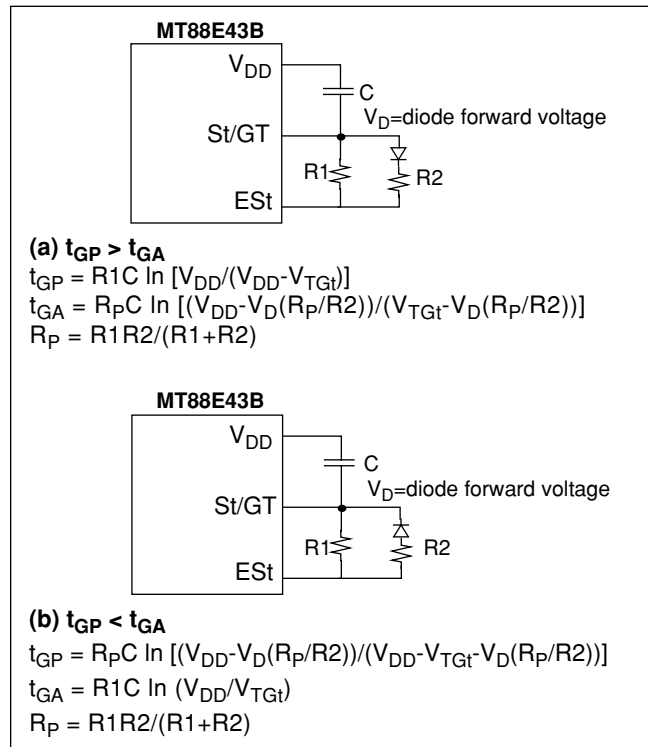
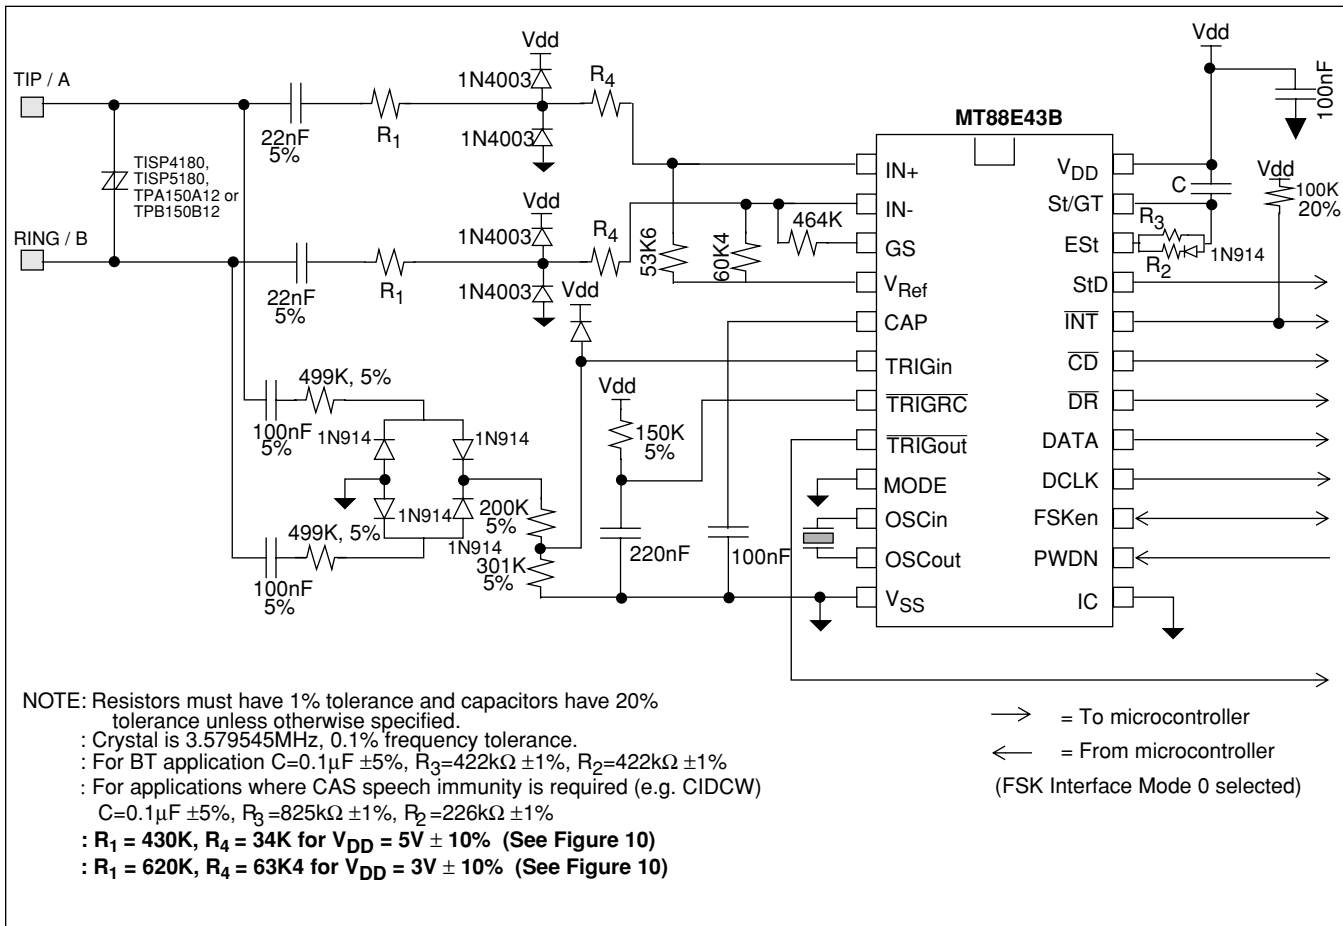
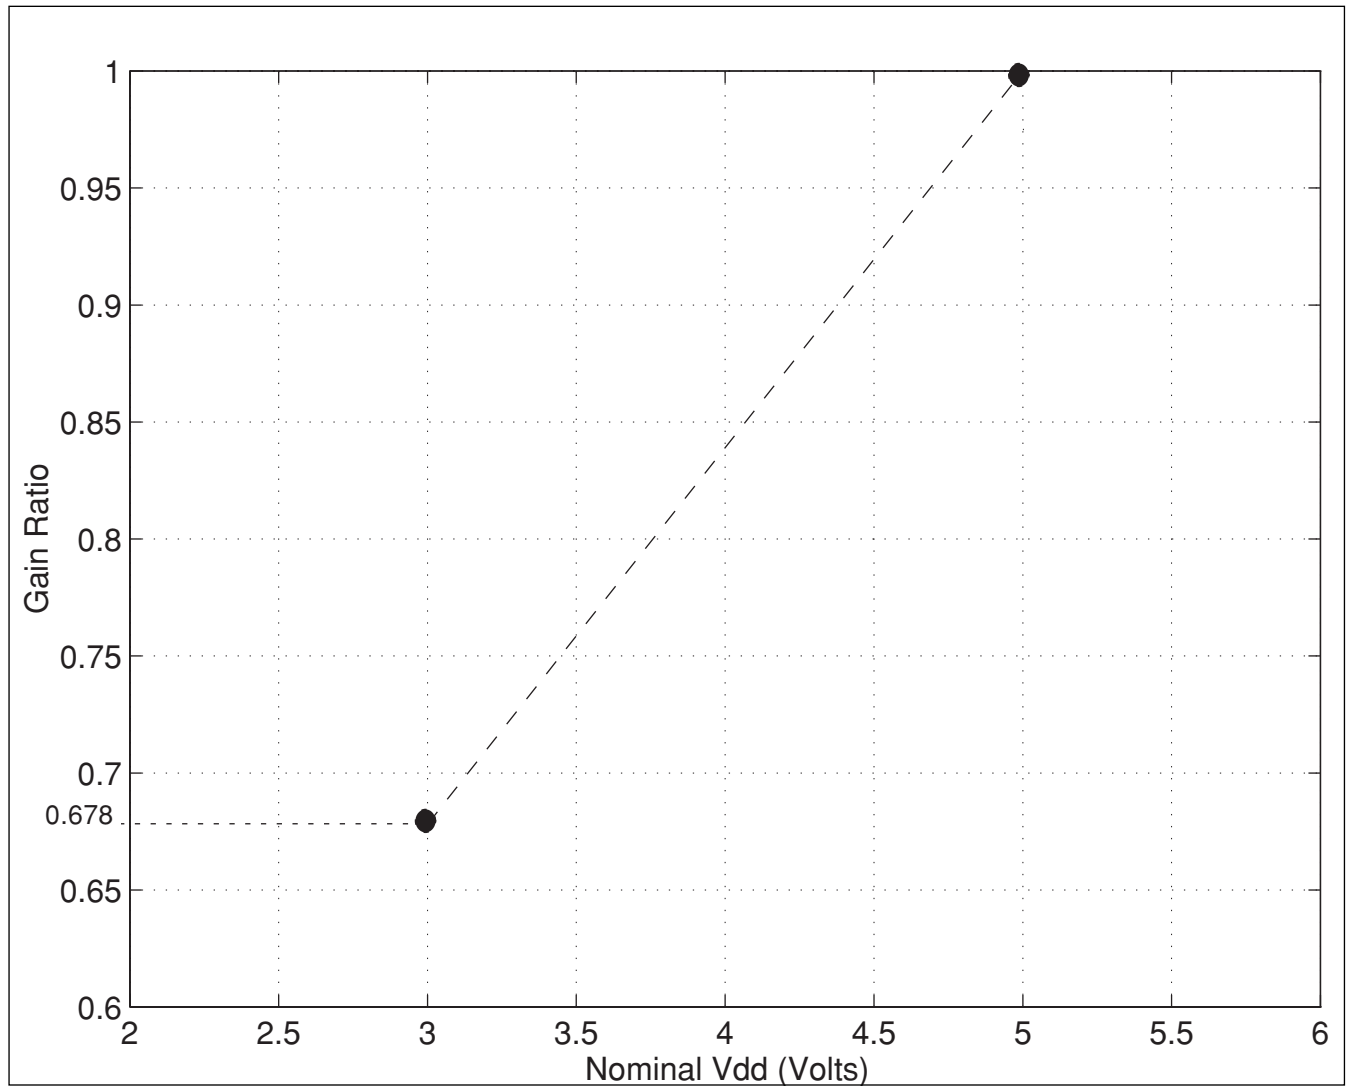

Figure 5 - Guard Time Circuits with Unequal Times
Figure 9 - Application Circuit
Figure 10: Gain Ratio as a function of Nominal Vdd
BT specifies that the idle state tone alert signal recognition time should not be less than 20ms when both tones are used for detection. That is, both tones must be detected together for at least 20ms before the signal can be declared valid. This requirement can be met by setting the t_{GP} (refer to Figure 5) to at least 20ms.
BT also specifies that the TE is required to apply a DC wetting pulse and an AC load 15-25ms after the end of the alerting signal. If $t_{ABS}=t_{DA}+t_{GA}$ is 15 to 25ms, the DC current wetting pulse and the AC load can both be applied at the falling edge of StD. The maximum t_{DA} is 8ms so t_{GA} should be 15-17ms. Therefore, t_{GP} must be greater than t_{GA} . Figure 5(a) shows a possible implementation. The values in Figures 9 and 11 ($R_2=R_3=422K$, $C=0.1\mu F$) will meet the BT timing requirements.
The circuits shown in Figures 9 and 11 are application circuits for the MT88E43B. As supply voltage (V_{DD}) is decreased, the threshold of the device's tone and FSK detectors will be reduced. Therefore, to meet the BT or Bellcore tone reject level requirements the gain of the input opamp should be reduced according to the graph in Figure 10. For example when V_{DD}=5V (+/- 10%), R₁ should equal 430k Ω and R₄ should equal 34k Ω ; and if V_{DD}=3V (+/- 10%) R₁ should equal 620k Ω and R₄ should equal 63.4k Ω . Resistors R₁ and R₄ are shown in Figures 9 and 11.
The circuit shown in Figure 9 illustrates the use of the MT88E43B in a proprietary system that doesn't need to meet FCC, DOC, and UL approvals. It should be noted that if glitches on the Tip/Ring interface are of sufficient amplitude, the circuit will falsely detect these signals as ringing or line reversal.
Note: In the application circuits shown in Figures 9 and 11, the Gain Ratio of MT88E43B opamp is
- Tip/Ring signal level. Input opamp configured to 0dB gain at $V_{DD}=5V\pm 10\%$, -3.38dB gain at $V_{DD}=3V\pm 10\%$. (see Figure 10)